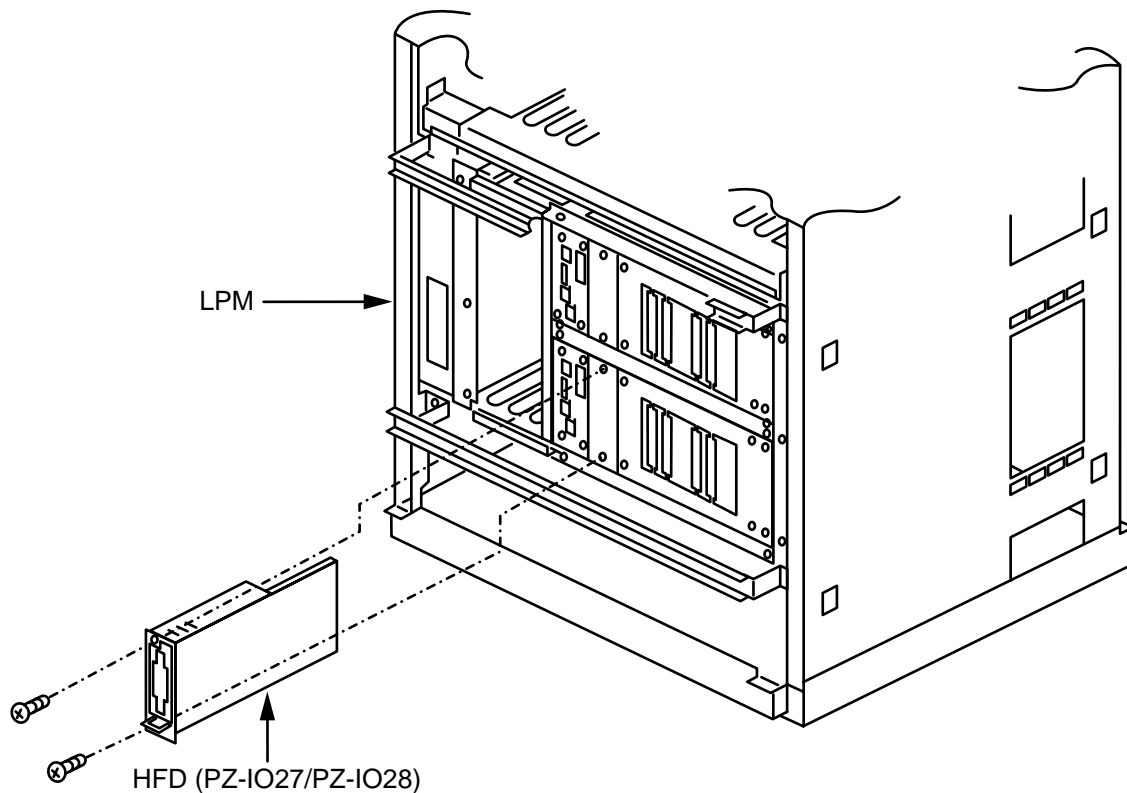

Figure 4-13 Insertion of New HFD Into CPR
- (5) Lastly, insert the new HFD into the CPR. Then, fasten the two screws as shown in Figure 4-13.